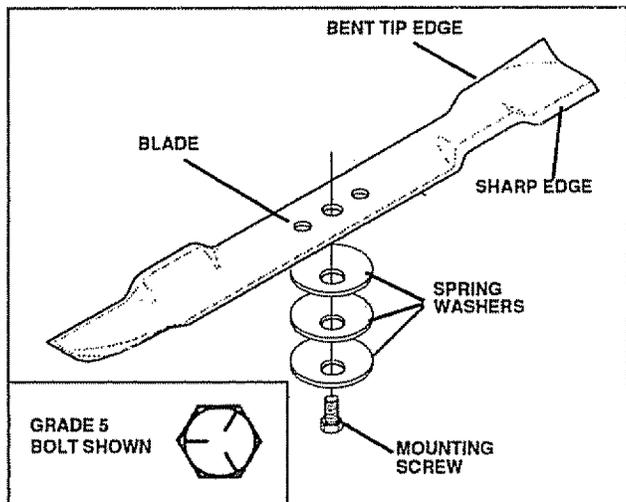

Fig. 14
**IMPORTANT:** Blade mounting bolts are Grade 5 heat treated as shown in Fig. 14 inset.